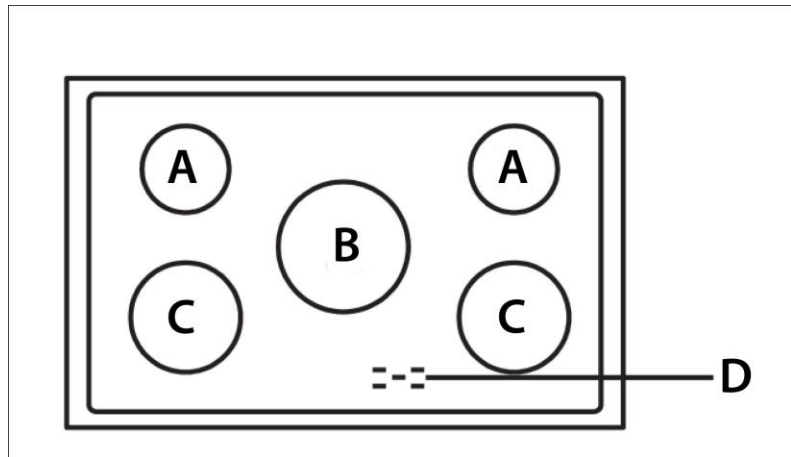

Figure 9
- The pot sizes stated in the table below are suitable for your ceramic surface. Solids pots and pans with flat bottoms are recommended for efficient cooking. (See Figure 9)